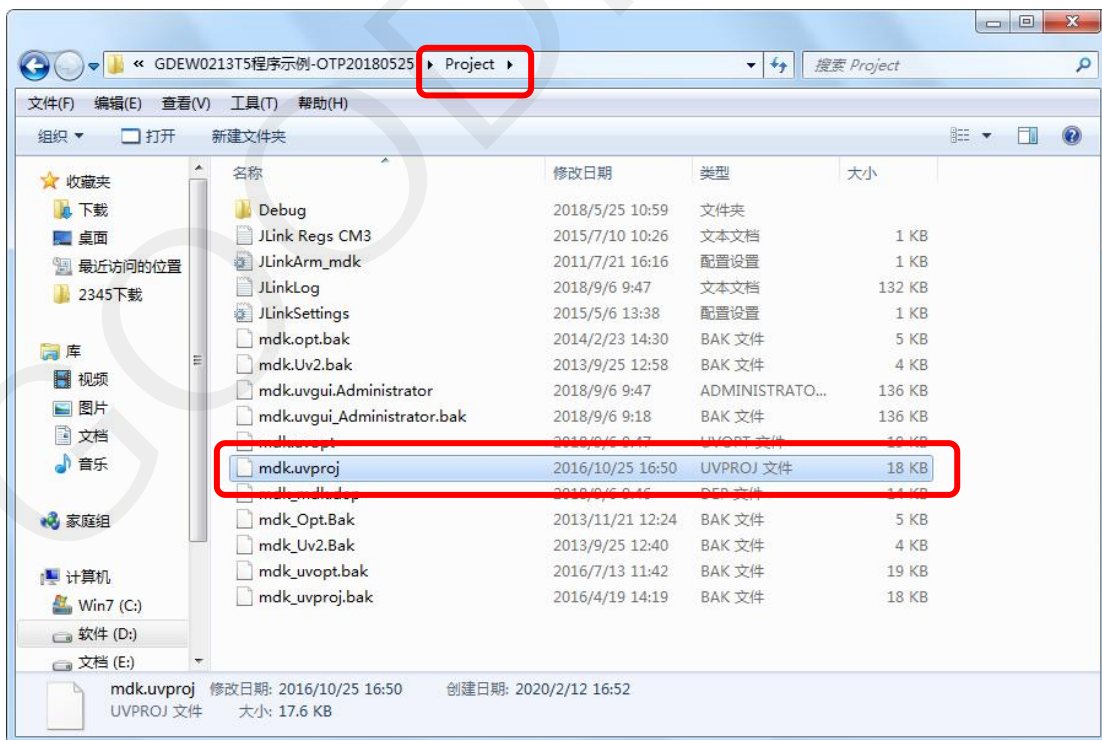

Figure 6 : Open the mdk.uvproj
2) Open the "mdk.uvproj" in the program folder "Project" shown in Figure 6 with Keil4.